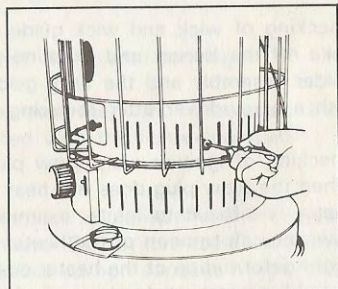

Fig. 18
- (2) Use screwdriver to remove the cabinet screws on each side of the cabinet (Fig. 18).